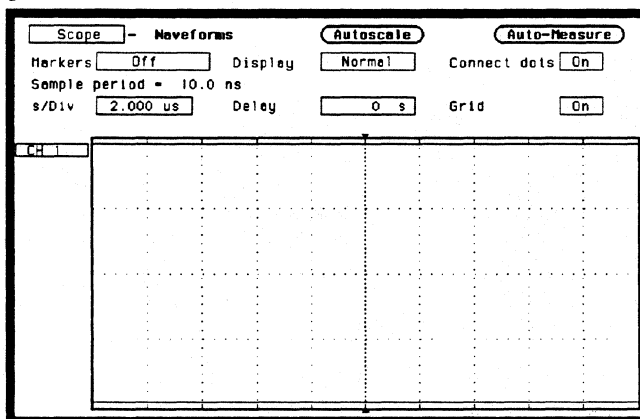

Figure 3-64. Waveforms Display Menu
- Press **DISPLAY** and set **Display** to **Normal**, **Connect dots** **On**, and **Grid** **On** as in figure 3-64.